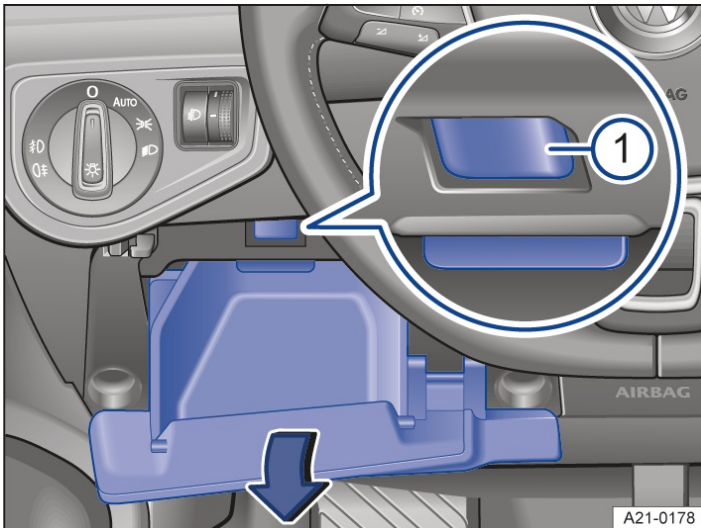

Fig. 1 Left-hand drive vehicles: Fuse box cover on the instrument panel on the driver's side.
2. Push the limit stop up, open the driver side storage compartment further in the direction of the arrow, and pull it out → *fig. 1* ①.